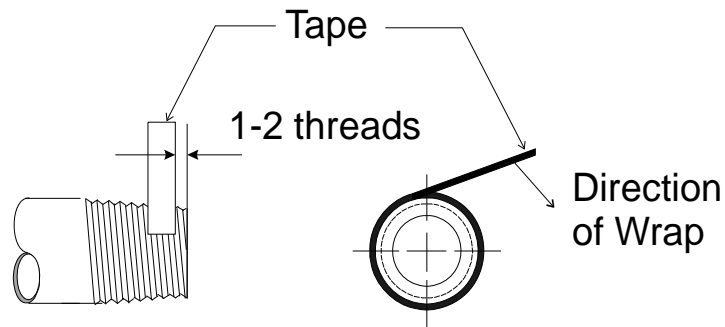

Figure 3
2. Prior to mounting unit, remove the manually operated valves by loosening the union connection on the bottom of each valve. Mount valves to inlet piping using Teflon tape or equivalent on all male pipe threads as shown in Figure 3.
1. Leaks at threaded connection should be corrected by taking the washdown station out of service and remaking the connection using Teflon tape or equivalent on all male pipe threads as shown in Figure 3.